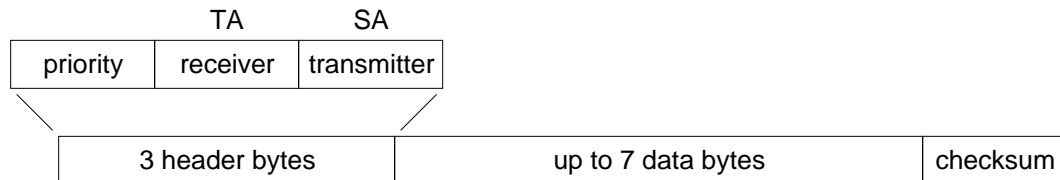

Figure 3. An OBD Message
Figure 3 below shows a typical OBD message structure that is used by the SAE J1850, ISO 9141-2, and ISO 14230-4 standards. It uses 3 header bytes as shown, to provide details concerning the priority, the receiver, and the transmitter. Note that many texts refer to the receiver as the ‘Target Address’ (TA), and the transmitter as the ‘Source Address’ (SA).